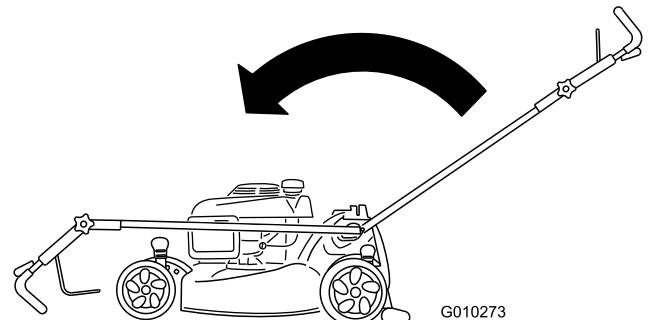

Figure 40
2. Move the handle all the way forward and loosen the upper handle knob (Figure 40).